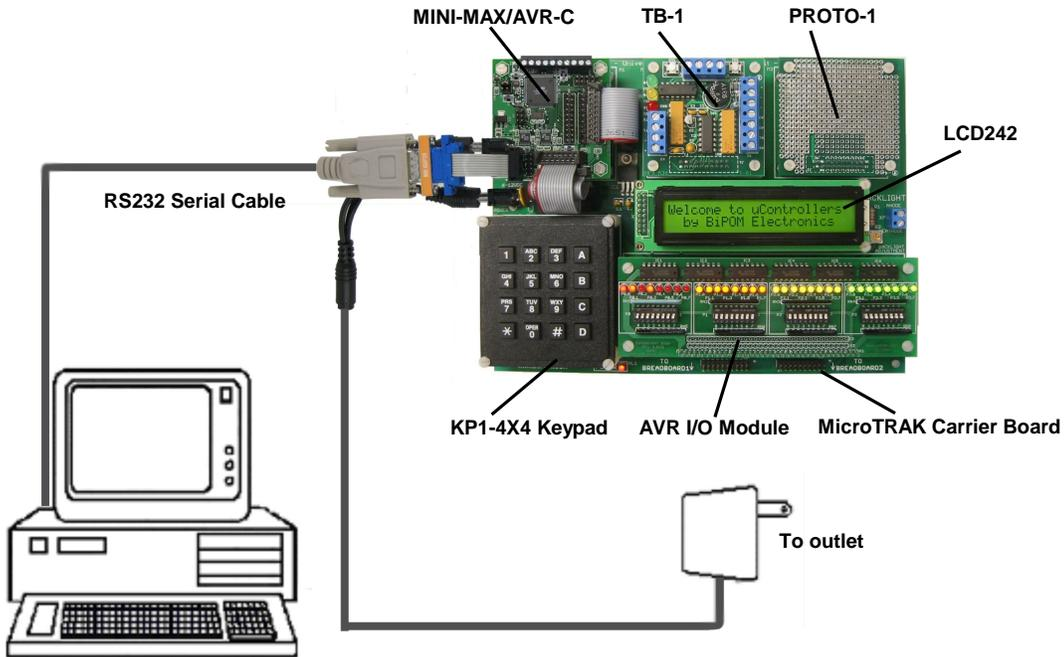

Figure 1
3. Connect the 10-pin header of serial cable to X8 connector of MINI-MAX/AVR-C board as shown on Figure 1. Mini-Max/AVR-C board uses UART1 as BOOT serial port.